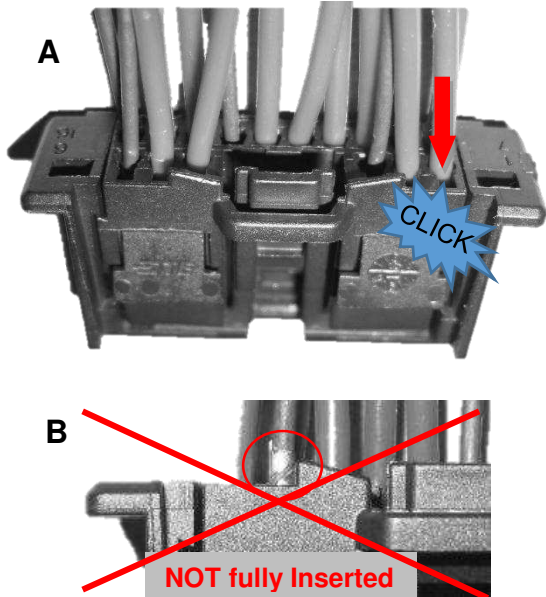

Figure 5: Terminal Insertion
3. Each contact must be inserted into contact cavity until the connector primary latch engages the contact. There should be an audible click or tactile feedback which indicates that the contact has been fully inserted. Pull back gently to ensure the contact has been locked in place. See Figure 5 A and B.
Simply press as shown in Figure 6 on the TPA (terminal position assurance), until an audible “CLICK” is heard or felt. Make sure the TPA is closed completely before starting the connector mating step. If TPA cannot be closed easily check that all terminals are fully engaged (see Figure 5).